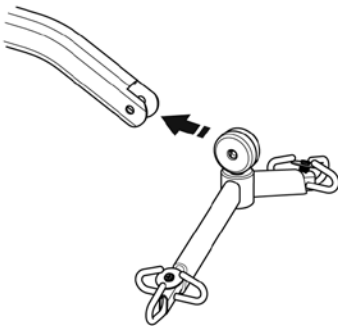
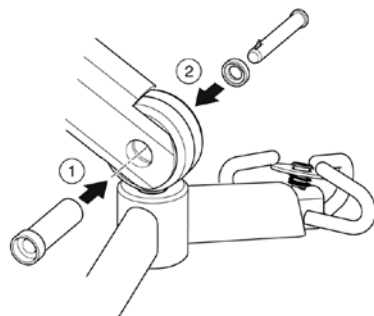

Fig. 5
Fig. 6
1. To connect, raise the spreader bar up toward the boom slot (Fig. 5). Insert the pin sleeve through the plastic end cap and to support the cradle (Fig. 6, item 1).
2. Once aligned in the boom slot, reinsert the quick release pin fully into the sleeve until it locks into position (Fig. 6, item 2).